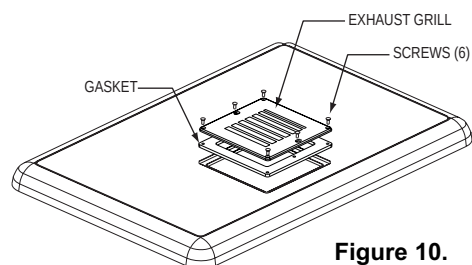

Figure 10.
1. Remove the six (6) retaining screws from the old exhaust grill and discard the screws, gasket, and exhaust grill as shown in **Figure 10**.